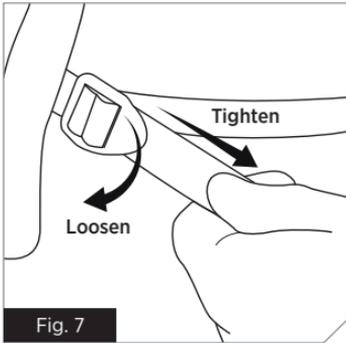
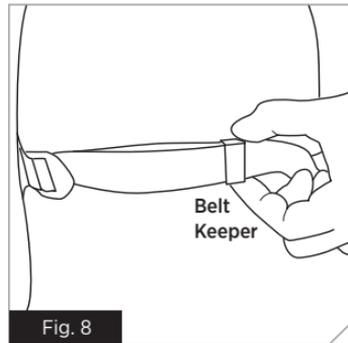

Fig. 7
Fig. 8
- Put the Inflatable PFD on just like a jacket (Fig. 3-6) and fasten the front buckle. Adjust the waist belt using two straps from the left and right side of the body. Pull back the straps to tighten, pull the adjusters forward to loosen (Fig. 7) Secure the belt's loose ends in the belt keeper (Fig. 8)